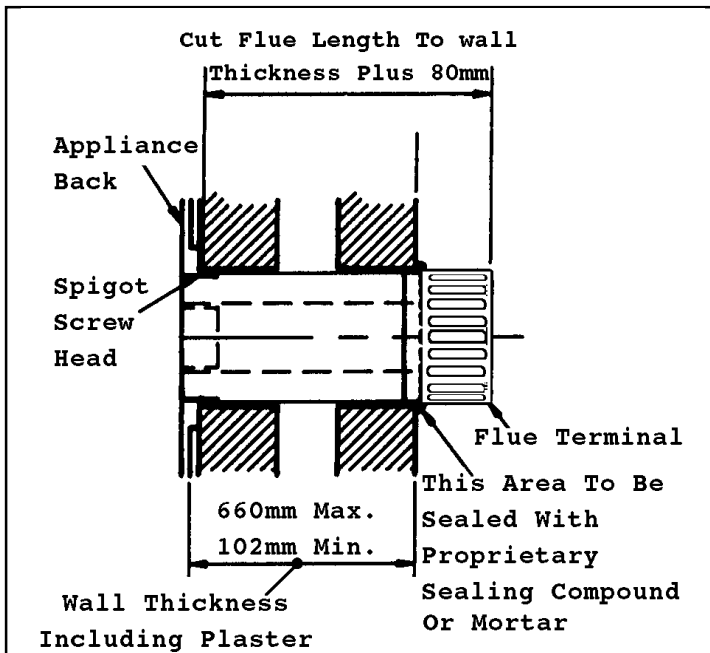

Fig. 7 Flue Unit Dimensions
6. PREPARE FLUE UNIT (Figure 7)